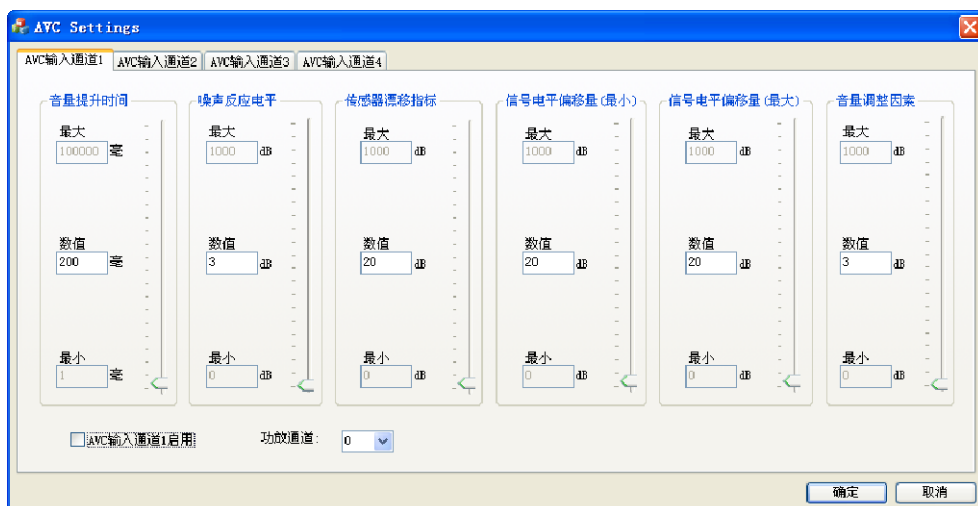

Figure 17 AVC Setting Window
1. Click the AVC Setting on the sub-system area on the right of the window as shown in the Figure 7, the AVC Settings window displays as shown in the Figure 17.